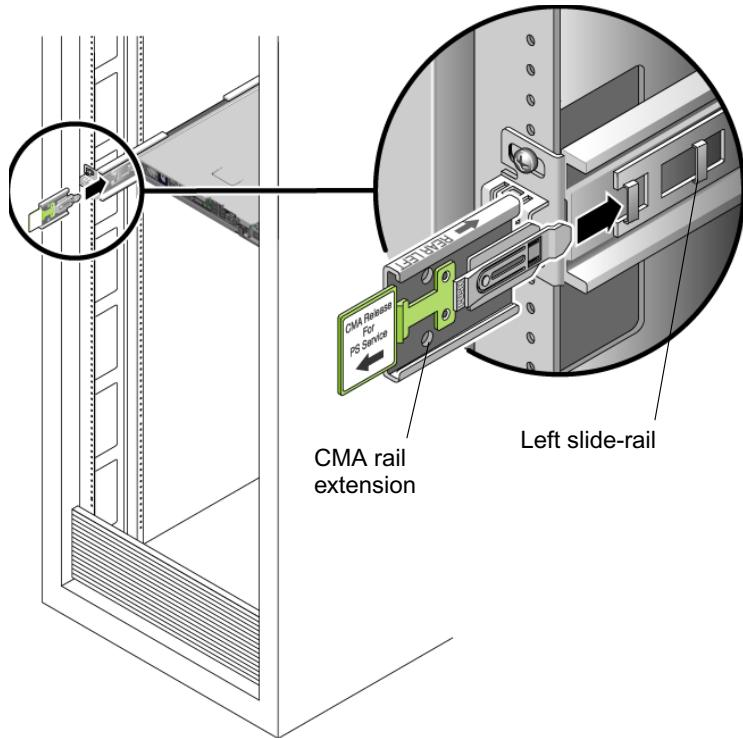

FIGURE C-7 Inserting the CMA Rail Extension Into the Back of the Left Slide Rail
3. **Locate the CMA rail extension and insert it into the left slide rail until the extension locks into place with an audible click. (See FIGURE C-7.)**